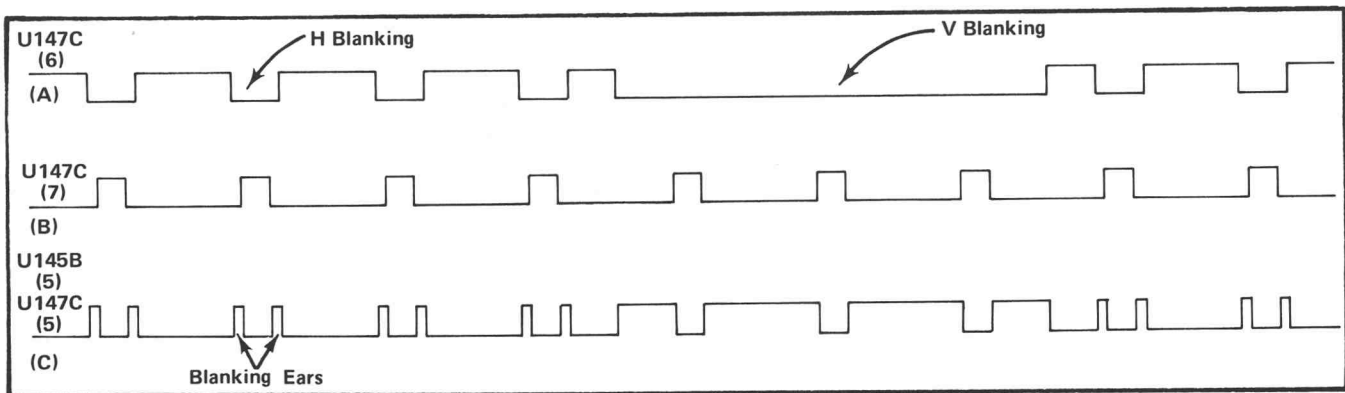

Fig. 3-10. Waveforms illustrating the inputs and output of U147C.
The blanking ears, which are developed in the Read Raster circuit and coupled to the Z Axis Amplifier, are developed from the switch gate pulse and the composite blanking signal. The composite blanking signal at U76D (5) is coupled to U147C (6), a three input gate (see Fig. 3-10 A). The output of the switch gate multi is coupled to U147C (7), Fig. 3-10 B. The other input, U147C (8), is connected to the WRITE ONLY position of the WRITE ONLY, WRITE AND READ, READ ONLY switch and receives an inhibit signal when the switch is in the WRITE ONLY position. The output of the gate, U147C (5) (see Fig. 3-10 C) is coupled to U145C (10). The other input to U145C is connected to the erase gate interval switch and receives an inhibit signal when the switch is actuated. Since the switch is not actuated, the blanking ears are coupled through U145C and appear as a negative-going signal on the